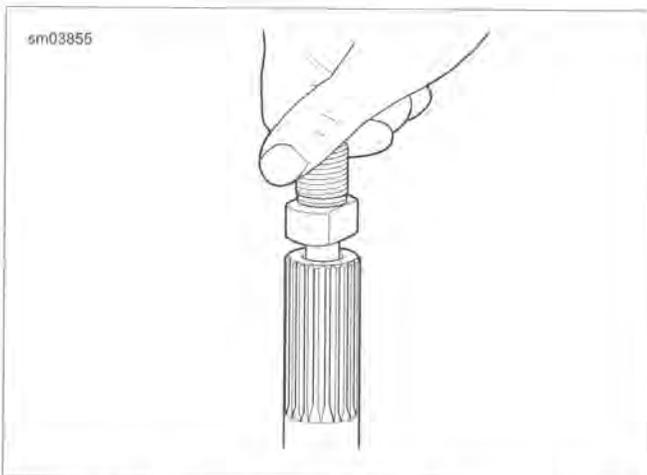

Figure 3-131. Thread Pilot Adapter into Sprocket Shaft
- a. See Figure 3-131. Thread pilot adapter into sprocket shaft.